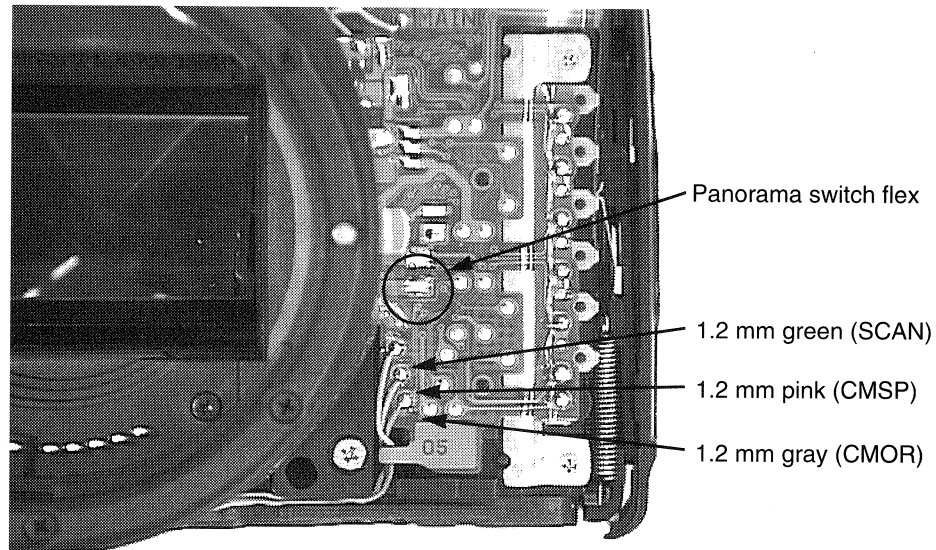

Figure 3-21 DX Contacts
12. On panorama models, remove the comb connector from panorama switch flex (10). (Fig. 3-21)
13. Disconnect the three leads from the phase signal board. (Fig. 3-21)
14. Unsolder the seven thru holes at the DX contact. (Fig. 3-21)